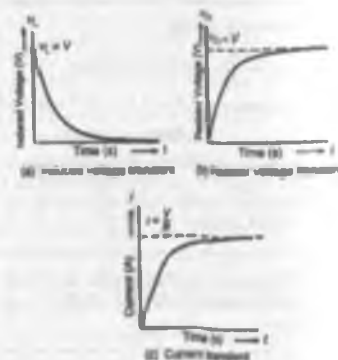

Figure 18.10
- (g) Curves showing the changes in v_L , v_R and i with time are shown in Fig. 18.10 and indicate that
Each of the transient curves shown in Fig. 18.10 have mathematical equations, and these are: